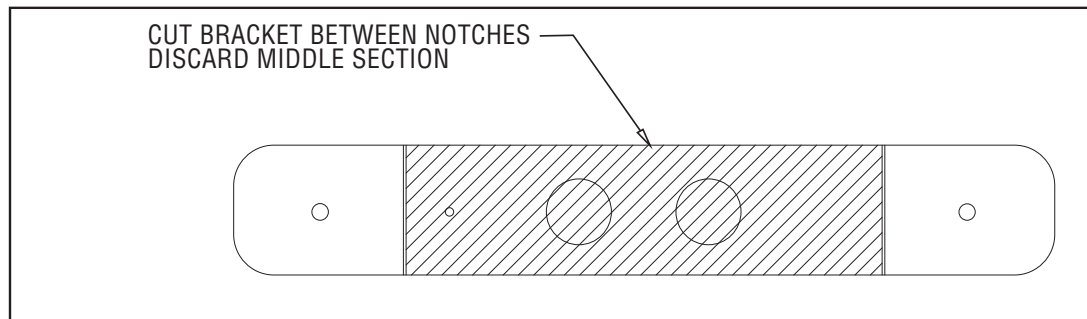

Fig. 4.9
- Cut the ends of the 3/8"-thick, grey PVC bracket plate along the score lines. These two ends will act as washer/bolt heads against the back of the pool wall. Discard the center section as shown in Figure 4.9.